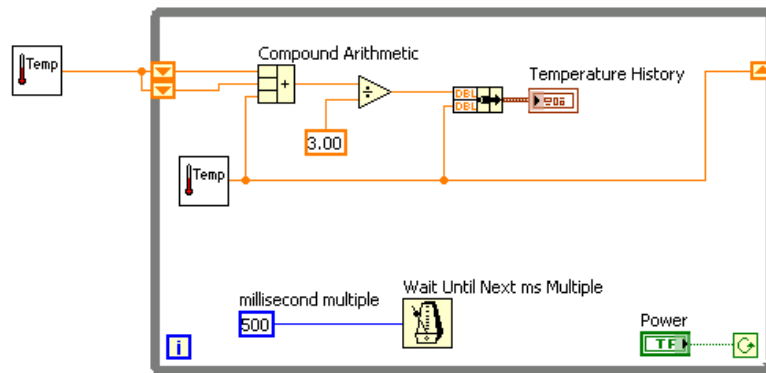

Figure 5.11
- Modify the block diagram as shown in Figure 5.11.